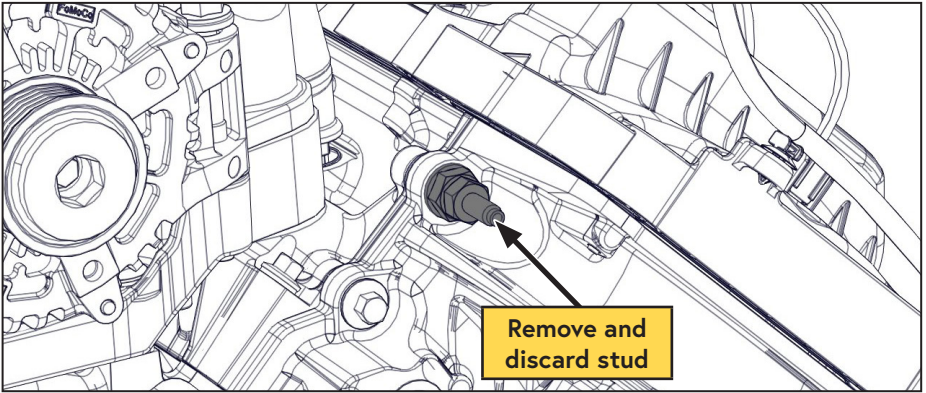

Figure 11 — Remove RIS stud
- Remove and discard the RIS stud (Figure 11).